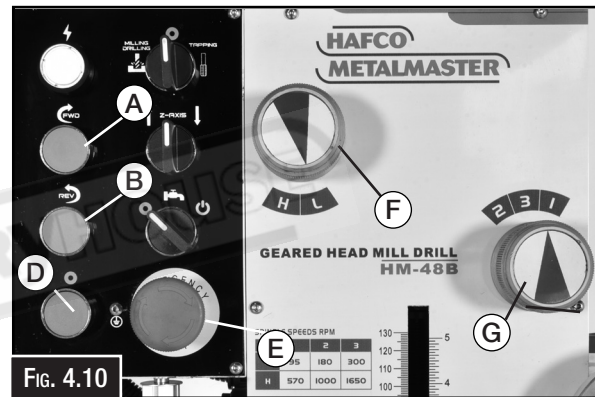

Fig. 4.10
3. Press EMERGENCY STOP button (E in Fig.4.10)
6. Twist EMERGENCY STOP button (E in Fig 4.10) clockwise until it pops out - this resets the button and enables the power to control panel and motor.
7. Press the SPINDLE FORWARD button (A in Fig 4.10). Spindle should rotate clockwise (as viewed from top) and machine should run smoothly with little to no vibration or rubbing noises.
8. Press STOP button (D in Fig. 4.10) and wait for spindle to completely stop.
9. Press SPINDLE REVERSE button.(B in Fig.4.10) Spindle should rotate counter-clockwise (as viewed from top).
10. Press EMERGENCY STOP button (E in Fig. 4.10) and wait for spindle to completely stop.